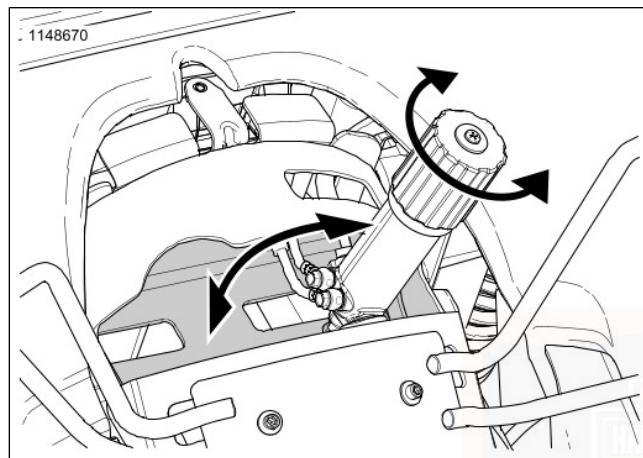

Figure 13. Rear Suspension Adjuster
3. See Figure 13. Rotate adjustment knob clockwise to increase preload setting, or counterclockwise to decrease preload setting until indicator knob shows appropriate preload setting on the scale.